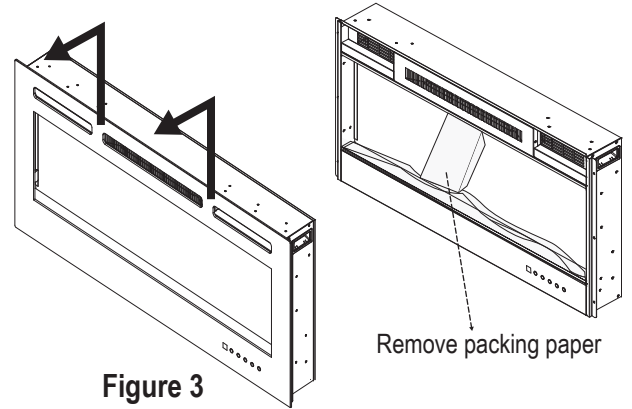

Figure 3
- D. Carefully lift the glass panel off the fireplace and place it on a soft, clean surface. Remove the packing paper from inside the unit. [Figure 3]